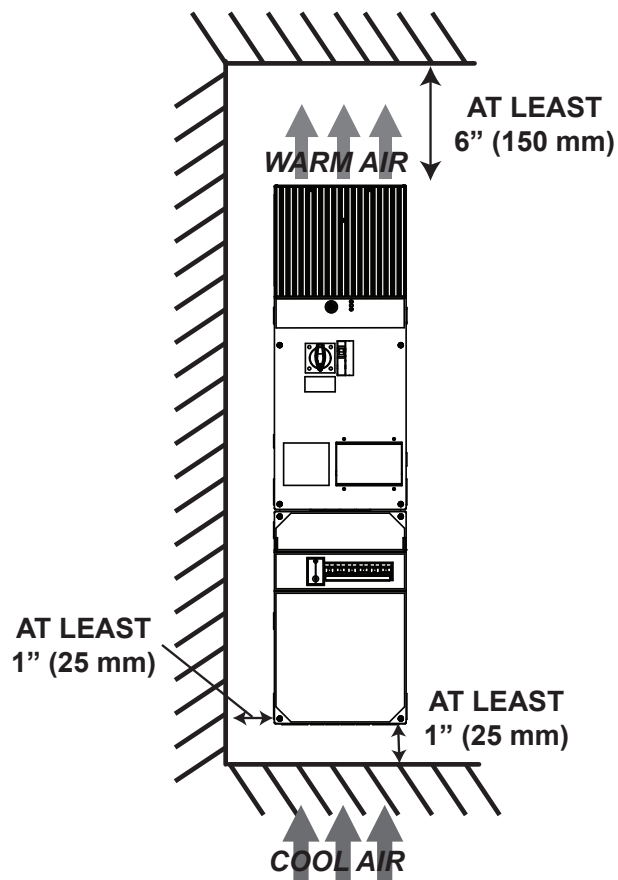

Figure 3-7. Allowing for passive cooling
2. Place the TS-MPPT-600V-TR on a vertical surface protected from direct sun, high temperatures, and water. The TS-MPPT-600V-TR requires at least 6" (150 mm) of clearance above and below and at least 1" (25 mm) between the controller and adjacent walls for proper air flow as shown in figure 3-7 below.